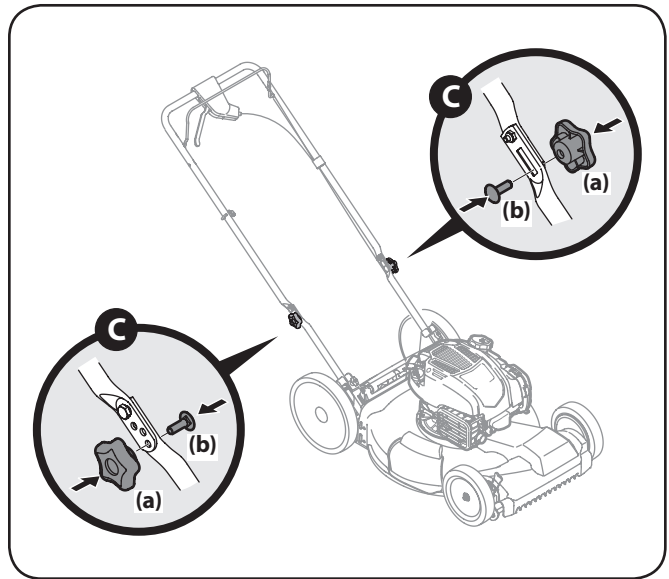

Figure 3-5
- Reattach star knobs (a) and carriage bolts (b) removed in Step 2 into lower holes of handle as shown in Figure 3-5.